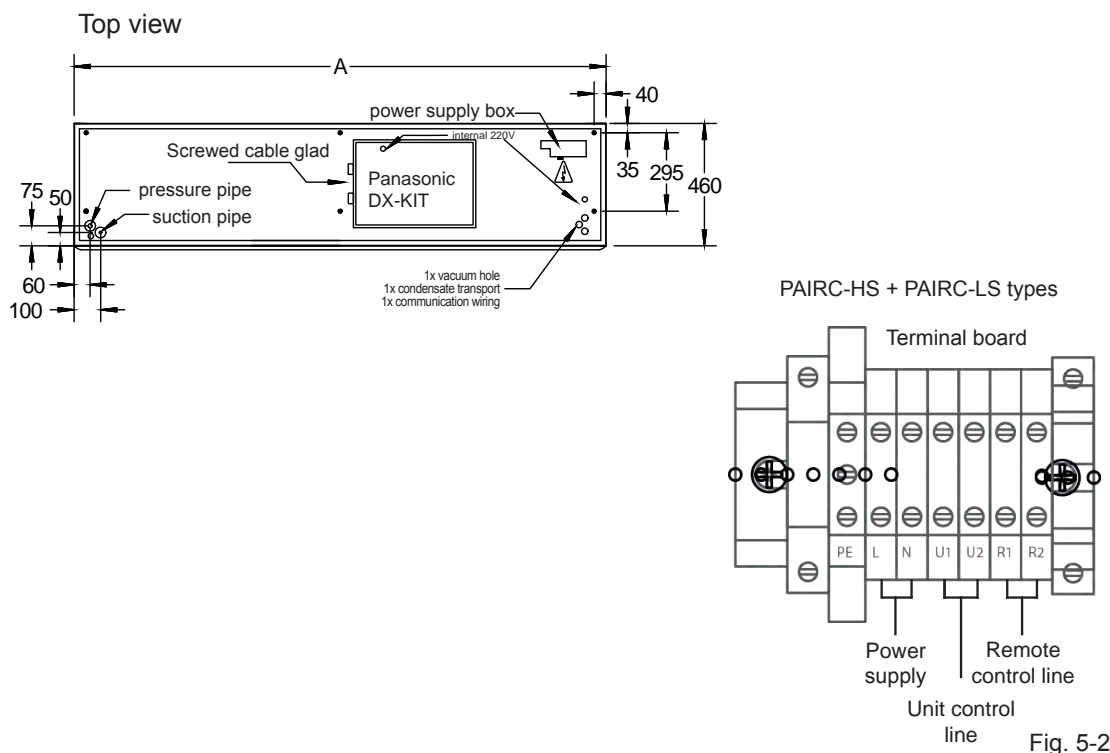

Fig. 5-2
2. The basic connection diagram of the indoor unit shows the terminal boards, so the terminal boards in your equipment may differ from the diagram. (Fig. 5-2)
5. Fig. 5-2 shows the electrical connections in detail.